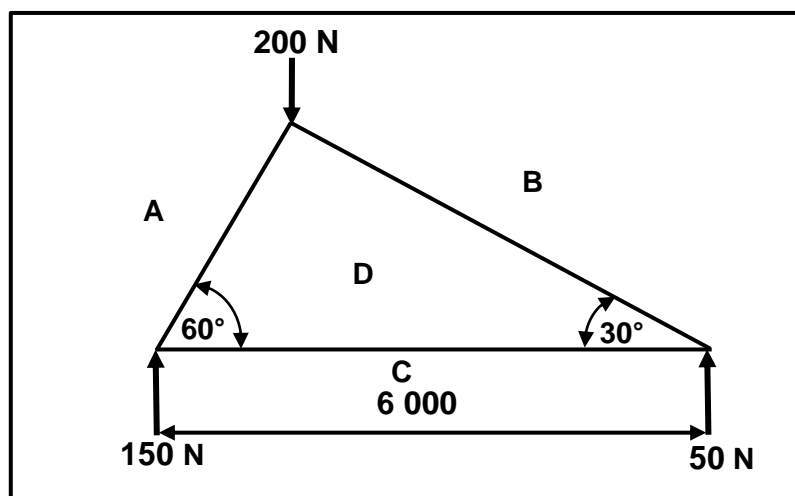

FIGURE 7.2
7.2 FIGURE 7.2 is a diagram of a steel frame structure. Answer the questions that follow.